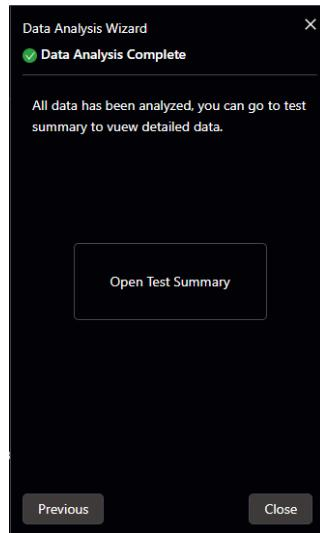

Figure 4-41 Data Analysis – Data Analysis Complete
18) Data Analysis Complete (Figure 4-41). Click [Open Test Summary] to view all statistical data (refer to Section 4.5.1.5: Test Summary).